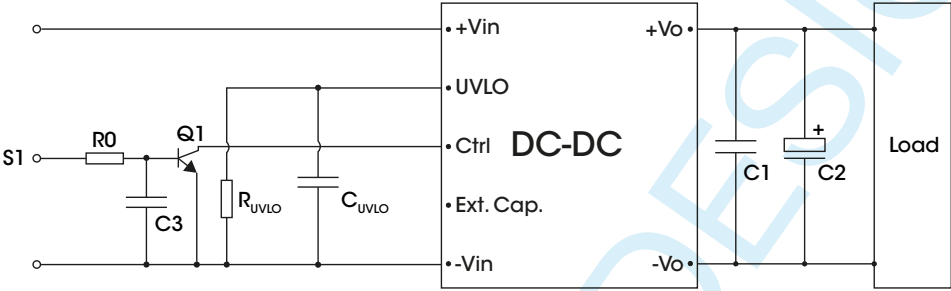

Figure 6. Recommended circuit for Ctrl negative logic
- 4. Recommended circuit for Ctrl negative logic refer to Fig. 6.